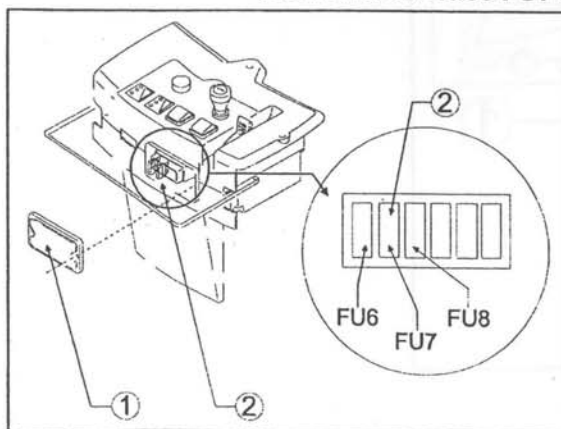

Fig. 6
When using this type of battery the fuse **FU7** (fig. 6, ref. 2) inside the machine control panel must be removed using the pliers. This operation serves to inform the electronic control of the type of battery used.